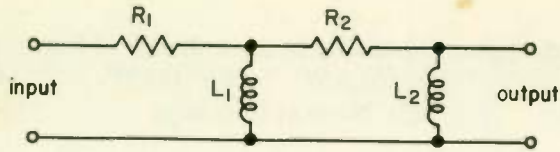

Fig. 57
24. With proper values of R 's and L 's, the circuit of Fig. 57 can provide a phase shift